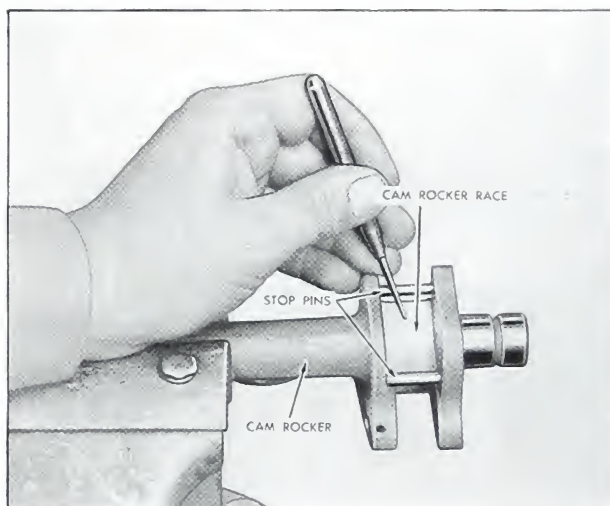

Fig. 5-45. Cam rocker race
8. Inspect the cam rocker lever for wear on the ground radius where the roller operates. If the lever is rough or grooved, replace it to prevent bad governor action. Fig. 5-45.